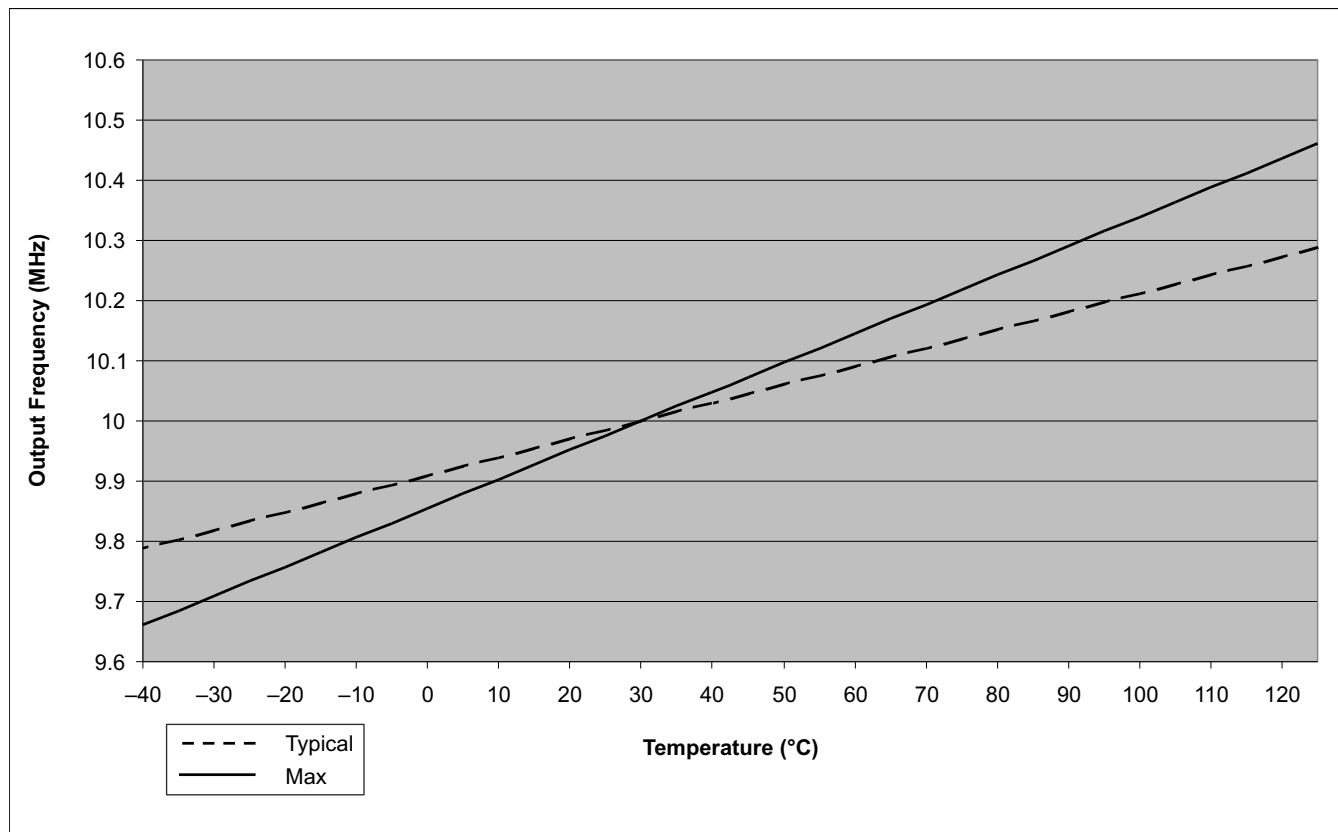

图 7-8. Zero-Pin Oscillator Frequency Movement With Temperature
- (1) Oscillator frequency will vary over temperature, see Figure 7-8. To compensate for oscillator temperature drift, see the Oscillator Compensation Guide and C2000Ware. .
- (2) Frequency range ensured only when VREG is enabled, $\overline{\text{VREG}} = \text{V}_{\text{SS}}$.
- (3) Output frequency of the internal oscillators follows the direction of both the temperature gradient and voltage (V_{DD}) gradient. For example: